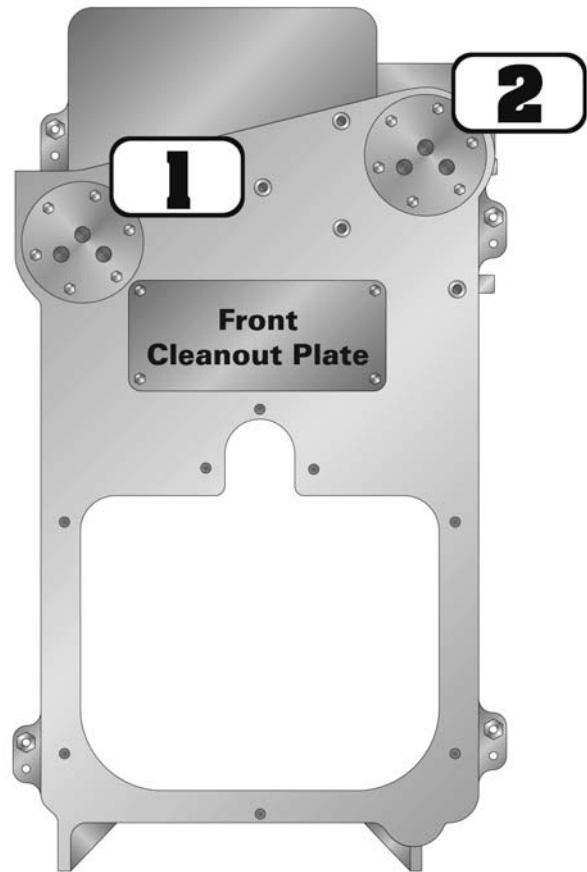

Figure 2.10: Tankless Coil Openings
2. Install tankless heaters, if used, in openings #1 and #2. See Figure 2.10 and Table 2.2.